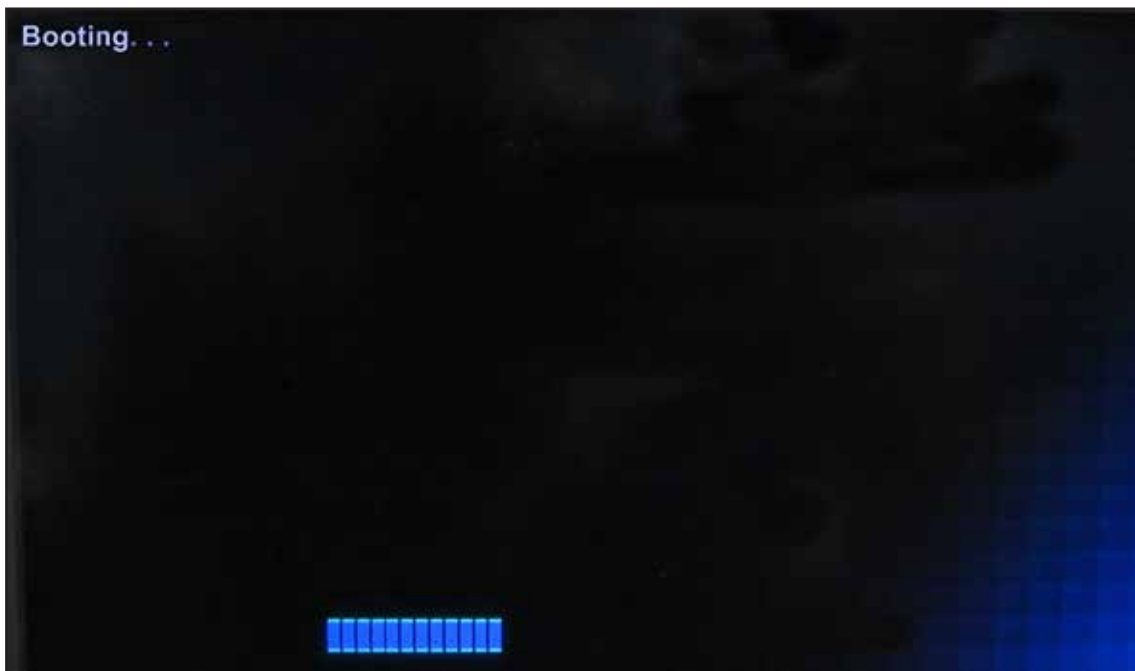

Fig. 19 - Program boot screen
3. The 'Booting' screen appears indicating the program is loading (Fig. 19).